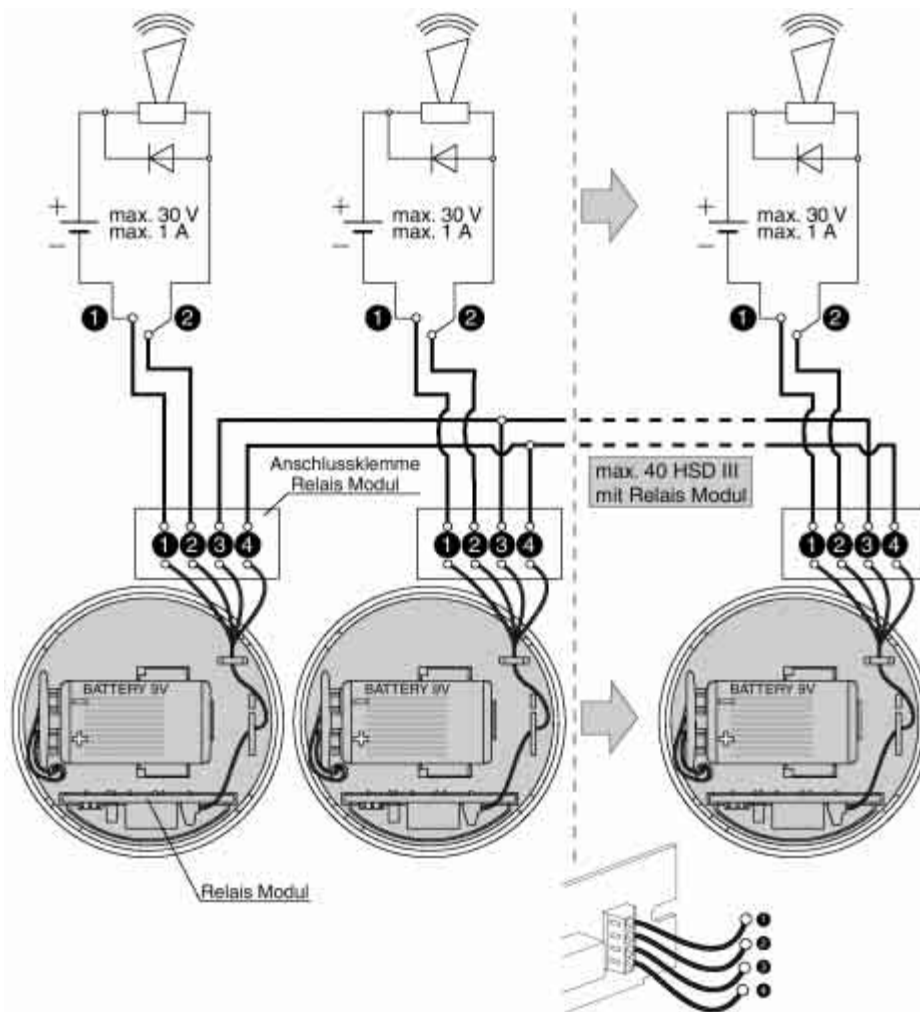
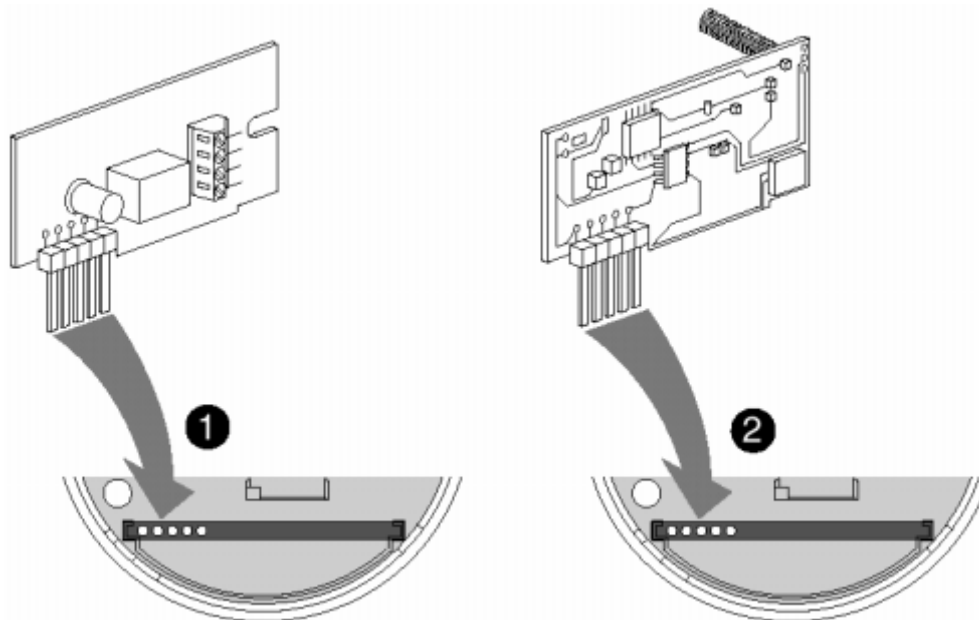

Fig.5
Fig.6 Relay module
A relay module, available as an optional extra, is required for networking home smoke detectors. Up to 40 smoke alarms (relay type) can be networked using a twisted pair of wires (e.g. telephone cable). For installation see figure 5. A maximum of 500 metres of a 0.6 mm diameter copper cable can be used. In addition, external signalling devices such as sounders or alarm beacons can also be connected.
- Feed the two-core cable through the strain-relief grip provided (Fig.5) before connecting it to the relay module as shown on the wiring diagram. Then carefully plug the relay module into the seat provided for it (Fig.6, 1).
- Attach the 9 V rectangular battery to the connector (4) and insert it into the battery holder (1).
Turn the home smoke detector anticlockwise to remove it from its base. Holding the radio transmitter module at its edges, carefully insert it into the seat provided for it (Fig.6).